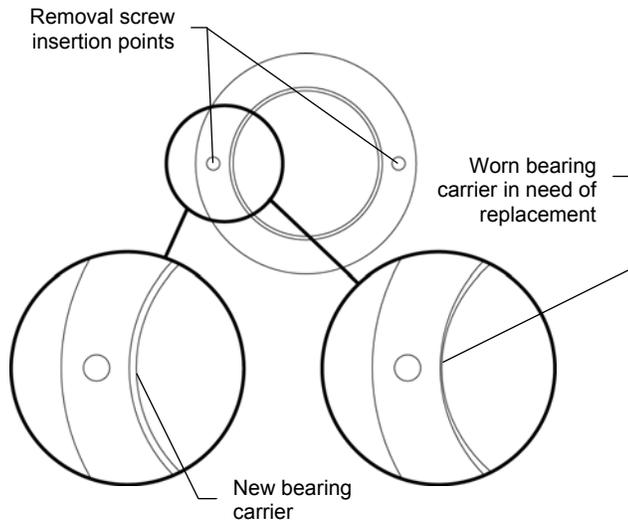
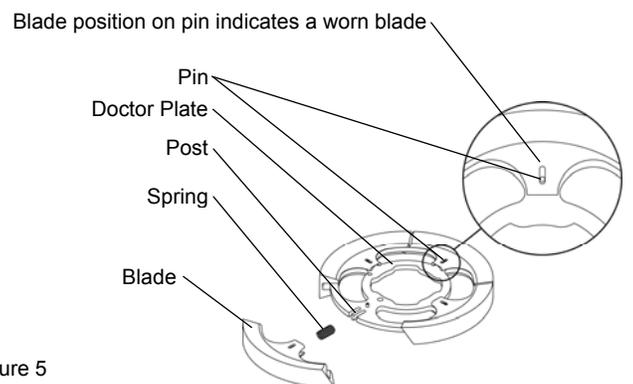

Figure 3
Figure 5
- 6) Inspect the lid O-ring (item 1) and clean the O-ring groove of any debris.
- 7) Remove the element compression assembly (item 2) and upper element O-ring (item 3). Inspect O-ring for damage.
- 8) Blade removal instructions (item 7):
- a. Inspect blades while in unit. Blade wear is indicated by pin location. See Figure 5. The cleaning blades should be replaced
- b. Removing retaining pin (item 5) from carrier.
- d. Remove cleaning assembly (item 6).
- e. Inspect blades (see Figure 5). If blades are in good condition, skip to step 10.
- 9) Install new cleaning blades and springs (item 7).
- 14) Inspect the actuator bearings (item 8) per Figure 3. Skip to step 16 if bearings are not worn. The bearings should be replaced every six months to keep the filter in proper working order.
- e. Slide the carrier (item 9) to the top of the actuator (opposite the ported end).